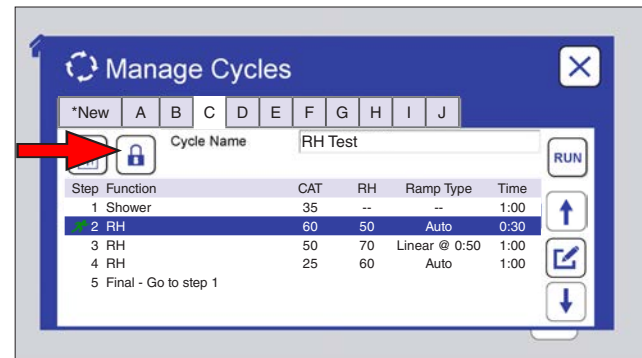

Figure 9.6.3a: Touch the Lock icon to lock the cycle. **NOTE:** Pre-programmed test cycles are locked from editing by Q-Lab.
- o Lock a cycle to prevent unauthorized changes (Figure 9.6.3a through Figure 9.6.3e).